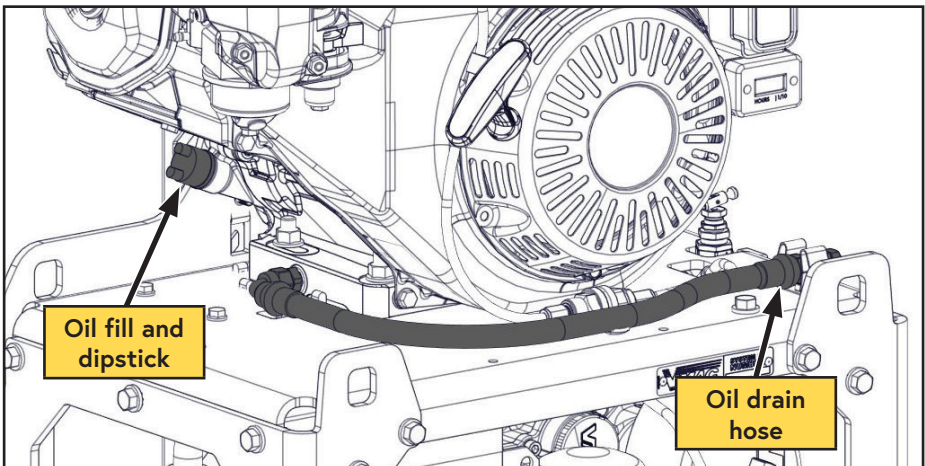

Figure 38 — Engine oil drain
- ☐ Locate the engine oil drain and clean the area around the drain plug and dipstick to prevent contamination (Figure 38).